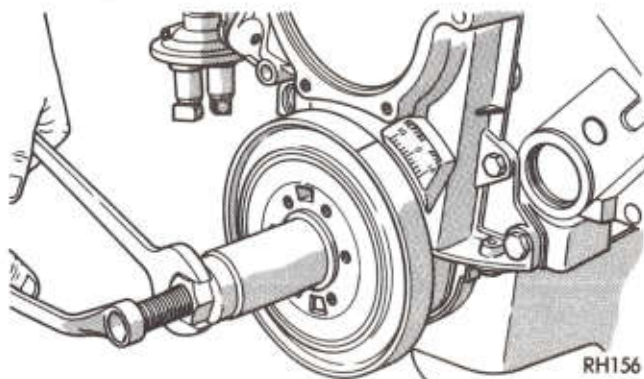

Fig. 30—Installing Vibration Damper with Tool C-3688
- (4) Install vibration damper using Tool C-3688 (Fig. 30).
- (5) Install retainer bolt and washer and torque to 135 ft. lb. (183 N·m).
- (6) Install pulley on vibration damper and torque to 200 in. lb. (23 N·m).
- (7) Set radiator shroud back over engine and install fan belts.
- (8) Install radiator shroud to radiator.
- (9) Connect battery.
- (1) Be sure mating surfaces of chain case cover and cylinder block are clean and free from burrs.
- (2) Using a new cover gasket, carefully install chain case cover to avoid damaging oil pan gasket. A 1/8 (3.175mm) inch diameter bead of RTV sealer (PN-4026070) or equivalent is recommended on the oil pan gasket. **Do not tighten screws at this time.**
- (3) Lubricate seal lip with lubriplate or equivalent. Position damper hub slot in crankshaft. Damper will act as a pilot for the crankshaft seal.
- (4) Place installing tool, part of Puller set Tool C-3688 in position and press vibration damper on crankshaft (Fig. 30).
- (5) Tighten chain case cover cap screws to 30 ft. lbs. (41 N·m) **first**. Then tighten oil pan cap screws to 200 in. lbs. (23 N·m).